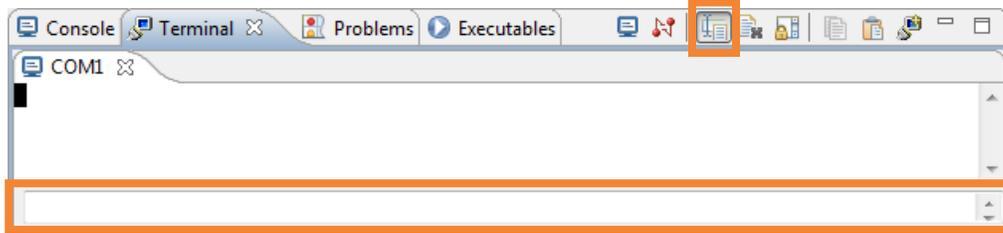

Figure 3.39. Terminal View
5. (Optional) Click the **Toggle Command Input** icon that adds an edit box to enter text (Figure 3.39).